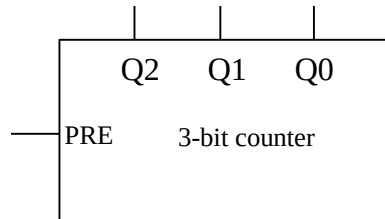

Figure Q2
- Q2. Figure Q2 shows a 3-bit up-count counter with an active high asynchronous preset pin. Draw a circuit with counting sequence as follow: